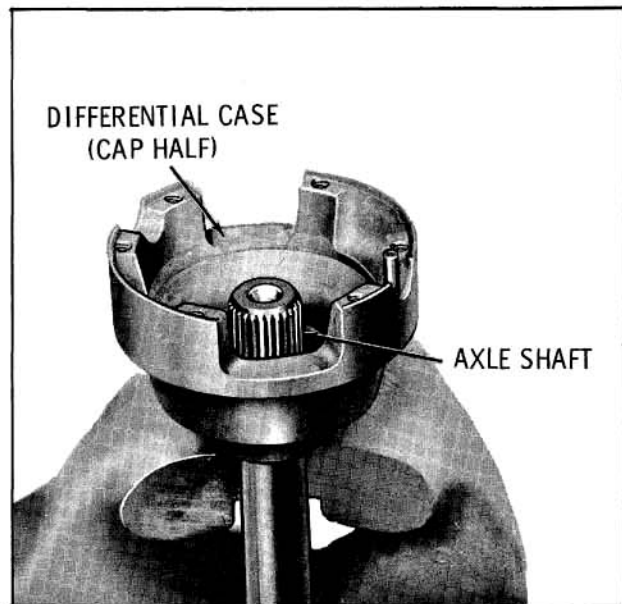

Fig. 10-41 Assembling Cap Half of Case
1. Clamp an axle shaft in a vise allowing three inches to extend above vise jaws; then place the cap side of differential case over the extended axle shaft with interior of case facing up. (Fig. 10-41)